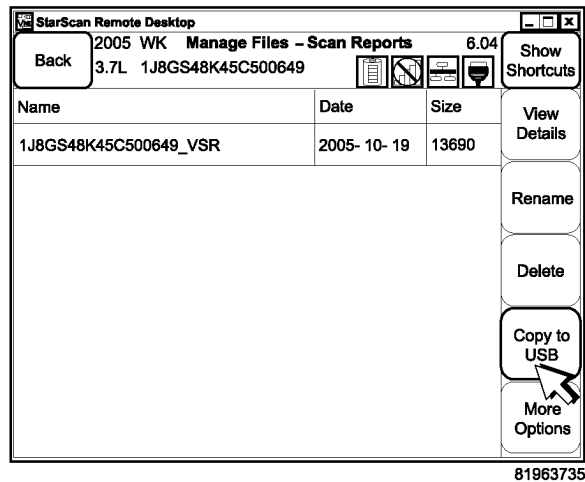

Fig. 9 MANAGE FILES - SCAN REPORTS SCREEN
10. Select “Copy to USB” (Fig. 9).